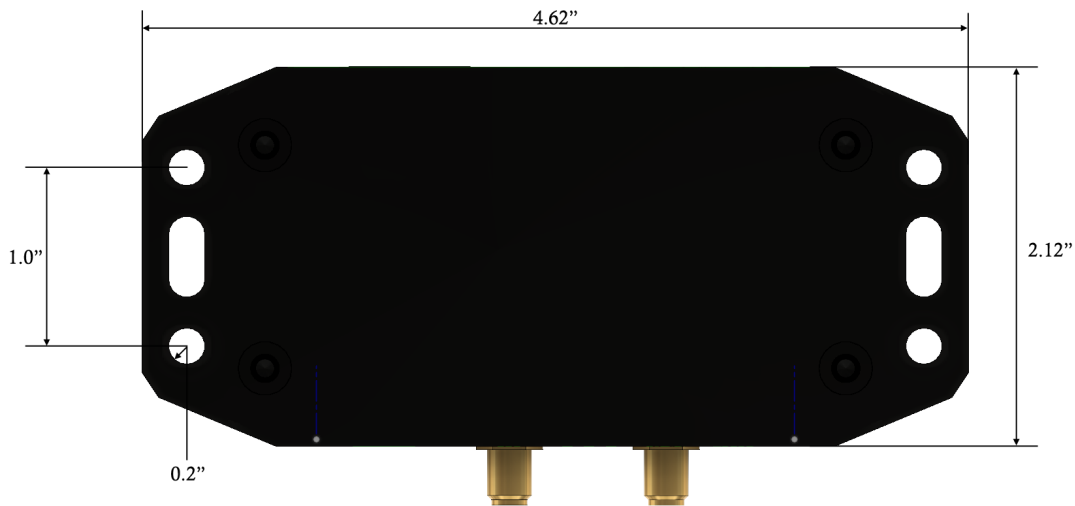

Figure 1: Footprint dimensions of the JT-DO1-12 timecode generator.
An annotated underside view of the JT-DO1-12 timecode generator is shown in Figure 1. The JT-DO1-12 chassis is machined from UV-resistant black Delrin with machined 6061 aluminum front and rear panels. The footprint of the unit is 4.62-in (L) by 2.12-in (W). The chassis height is 1.0-in. The chassis is drilled with four 0.2-in mounting holes (two on each flange). The flange mounting holes are separated by 1.0-in. An additional mounting slot is provided between the mounting holes on each flange. If the internal patch antenna is specified, the unit should be mounted on a horizontal, upward-facing surface. If an external antenna is specified, the unit may be mounted in any orientation.